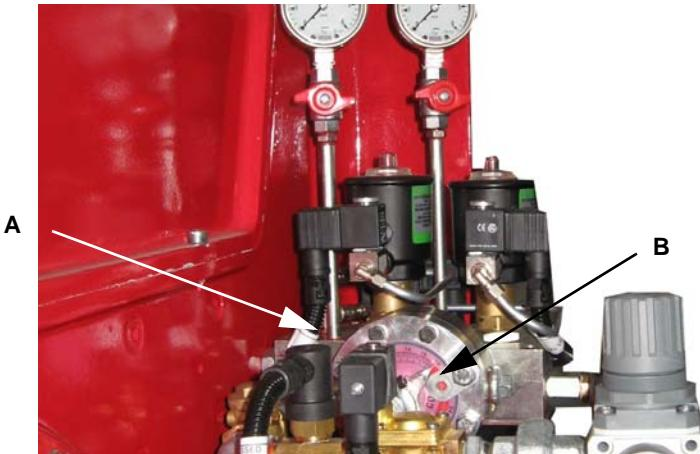

Fig. 24
- Remove and clean the compressed air governor A in Fig. 24
- Remove and clean the oil governor B in Fig. 24